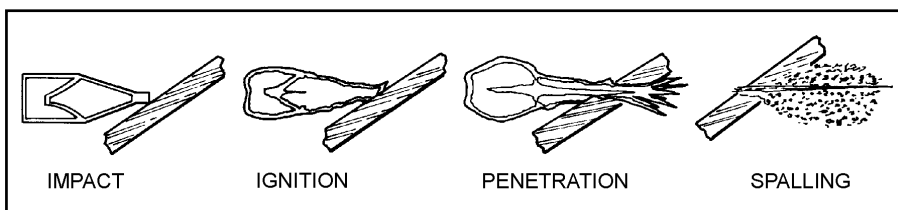

Figure 3-3. Effects of M136 AT4 warhead.
a. **Description.** The M136 AT4's warhead has excellent penetration ability and lethal after-armor effects. The extremely destructive, 440 gram shaped-charge explosive penetrates more than 14 inches (35.6 cm) of armor. Warhead effects are shown in Figure 3-3.
- (1) **Impact.** The nose cone crushes; the impact sensor activates the fuze.
- (2) **Ignition.** The piezoelectric fuze element activates the electric detonator. The booster detonates, initiating the main charge.
- (3) **Penetration.** The main charge fires and forces the warhead body liner into a **directional gas jet that penetrates armor plate.**
- (4) **After-Armor Effects (Spalling):** The projectile fragments and incendiary effects produce blinding light and destroy the interior of the target.